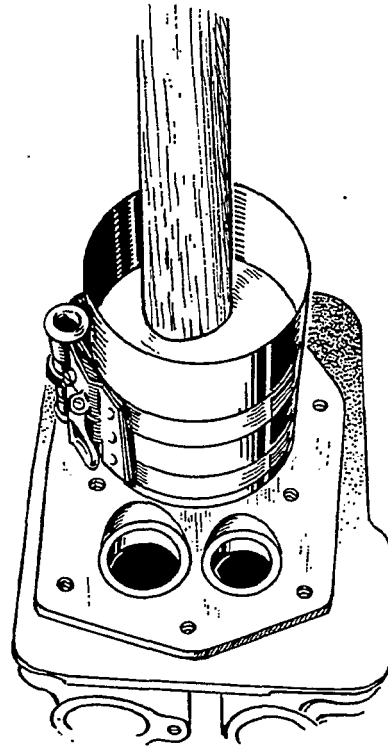

FIGURE 44. INSTALLING PISTON
2. Lubricate the number one piston assembly and inside of the cylinder. Compress the rings with a ring compressor as shown in Figure 44.
4. Tap the piston down into the bore with the handle end of a hammer until the connecting rod is seated on the journal (Figure 44). Install the bearing cap on the rod with the stamped reference numbers matching the marks on the rod. Install and tighten the bolts evenly in steps to the specified torques.